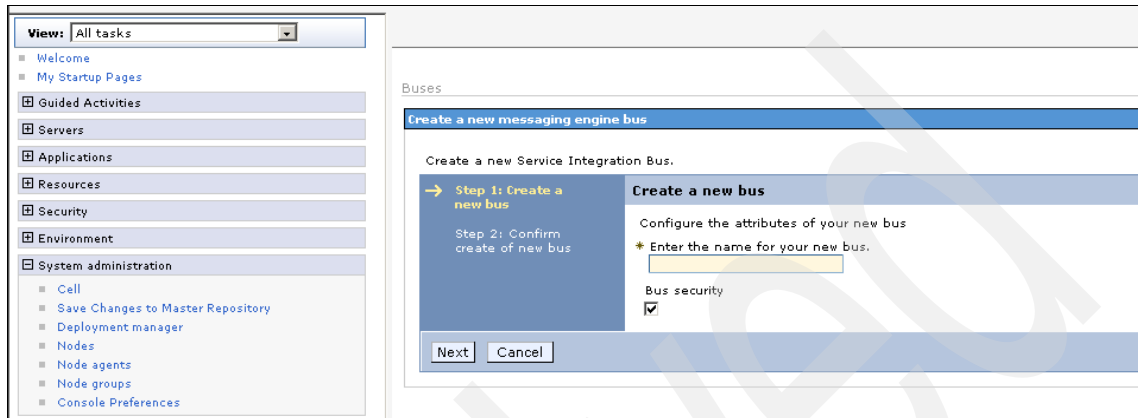

Figure A-21 New bus
- Click **New** and select **Buses** → **New**. A dialog box is displayed where you can add a new service integration bus. Deselect the **Bus security** check box (see Figure A-21). If you leave this box checked, intjmsbus inherits the Global Security setting of the cell.